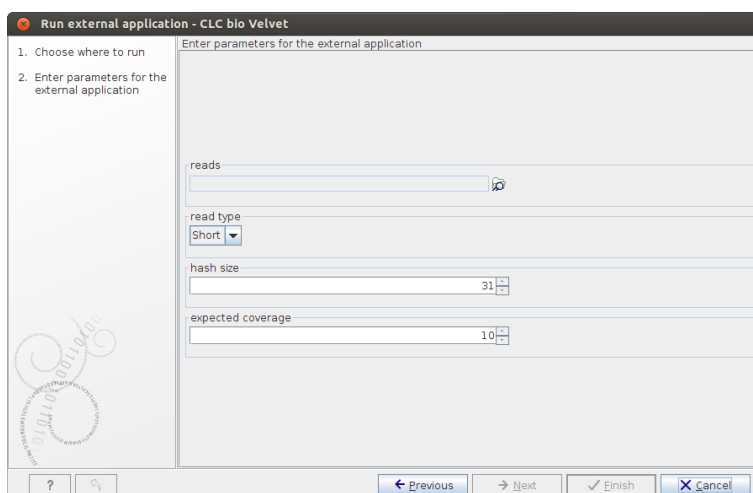

Figure 12.15: Configuring Velvet parameters from a Workbench.
- Select (📁) the reads to assemble and configure the Velvet parameters, as shown in figure 12.15.